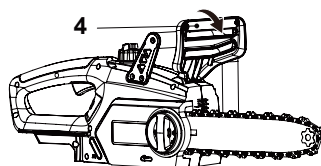

Fig. 17, Engage chain brake
Engage chain brake: When the chain brake lever (4) is in the engaged position, the saw chain is stopped as soon as the chain brake is activated (Fig. 17).